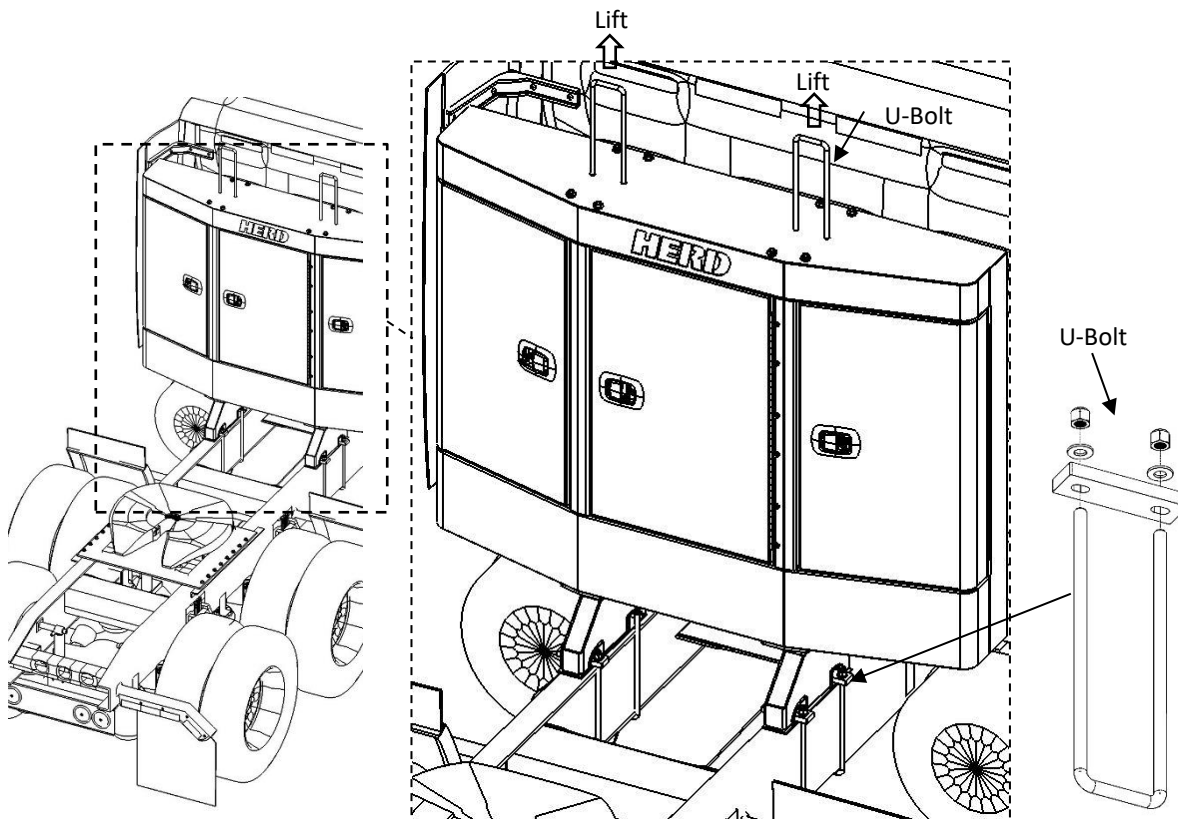

Figure 3: Cab Guard installation (Your Cab Guard may not be exactly as shown)
- To lift cabinet style cab guards onto a truck, the U-bolts can be installed through the top of the cabinet as a lifting point as shown in Figure 3.
- c) Install U-bolts from the bottom of the frame upward, through the mounting plates as shown in Figure 3.